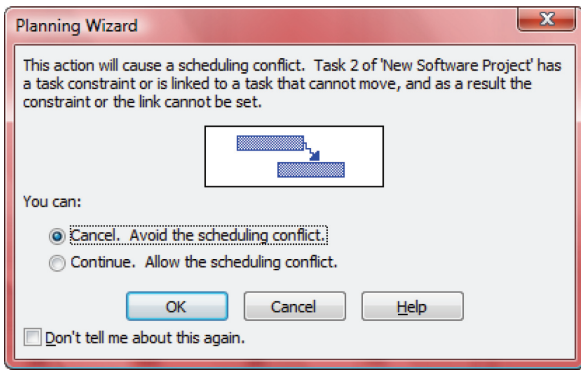

Figure 3. The Planning Wizard message regarding a scheduling conflict
If you input information into Microsoft Project in this manner (YJ), Microsoft Project will communicate with you through the Planning Wizard and the Gantt Chart when a conflict arises (TJ) as shown in Figures 3 and 4: